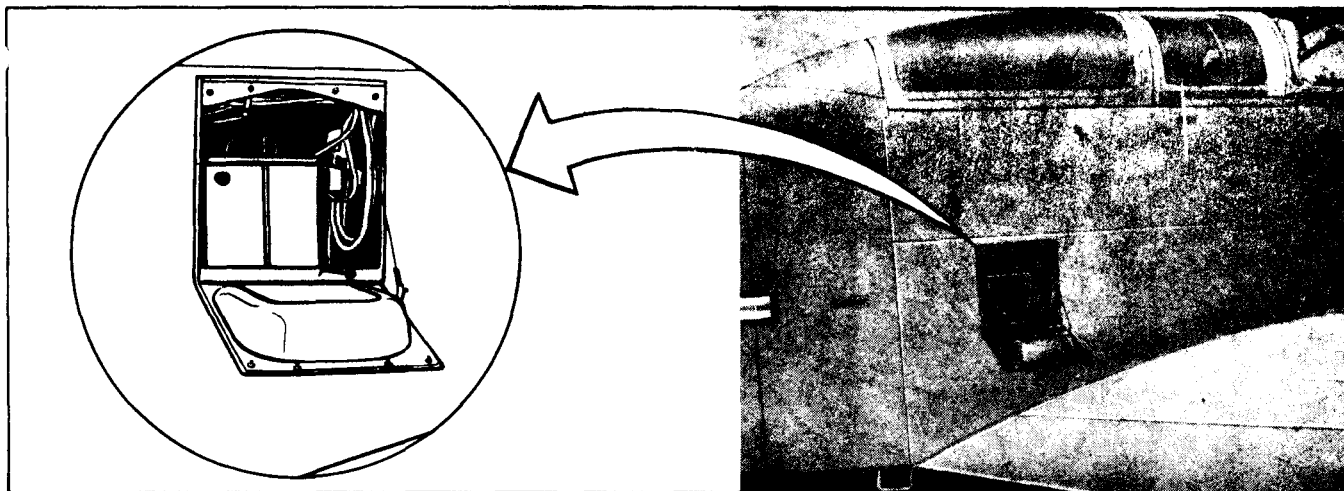

Figure 9-43. Battery System and Unit Location A1E
(1) The battery for the AlE aircraft is located on the right side below the "blue-room". (see figure 9-43)
(2) The battery for the AlH/J aircraft is located on the left side of the fuselage forward of the tail assembly.